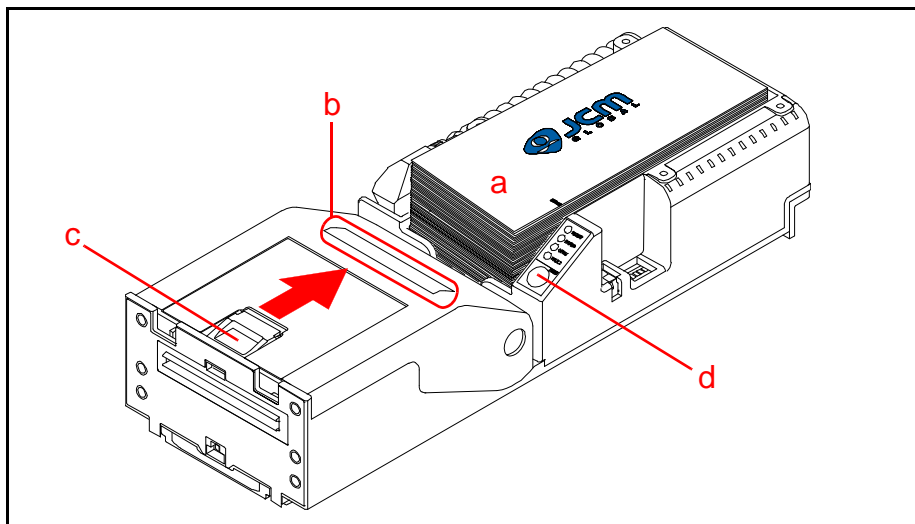

Figure 9 Disabling the Ticket Low Sensor
1. Pull the Ticket (Figure 9 a) out of the GEN5 Printer Ticket In Slot (Figure 9 b).
2. Press the Upper Lid Release Lever (Figure 9 c) toward the rear of the GEN5 Printer to open the Upper Lid.
3. Press and hold the FEED Button (Figure 9 d) for three (3) seconds.